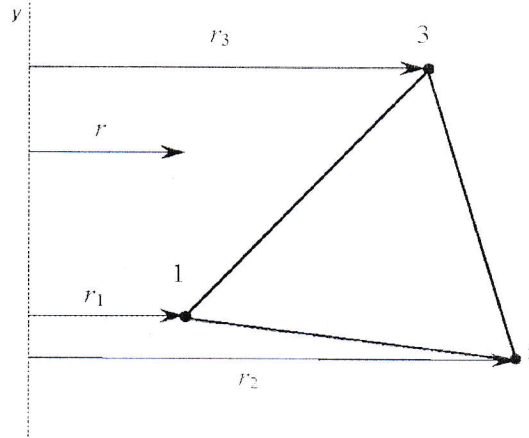

Figure 2
- 6.a) Evaluate the axisymmetric stiffness matrix  $\mathbf{K}$  of the triangular element shown in the figure 2. Consider the coordinates of nodes as 1 (2, 1), 2 (4, 0), and 3 (3, 2). Also assume  $E = 2.6 \text{ GPa}$  and  $\nu = 0.2$ .